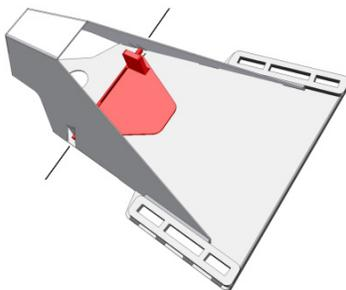

Figure 10: Align Rainflap Rod
2. Align the other side of the rainflap rod with the unbent hinge tab. (**Figure 10**)